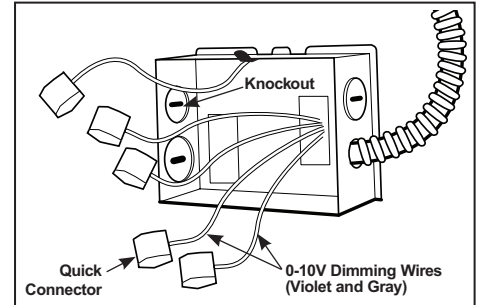

Figure 5
Step 2. Remove wiring box cover. Remove the appropriate round knock-out(s) and accommodate the type of electrical service to be used/allowed by your local electrical code. (Fig. 5)
Step 3. Strip supply wire 3/8" and insert each supply wire into appropriate connector. Connect black fixture wire to hot, white fixture wire to neutral and green fixture wire to ground. (Fig. 5)